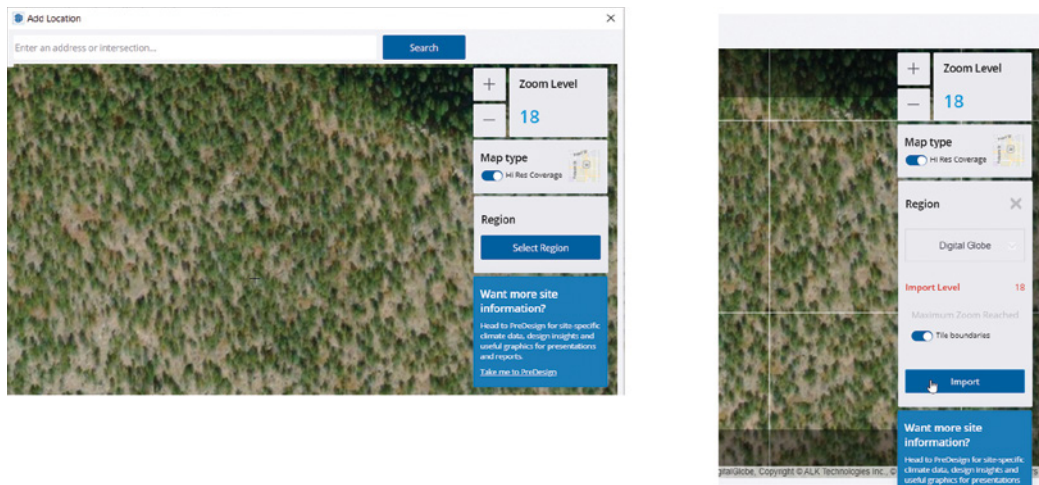

Figure 5-87: Select the region to import.
2. Zoom into the area you want or type an address. Select a region by drawing a window around it. Choose a digital imagery provider (I chose Digital Globe) and click the *Import* button (Figure 5-87).